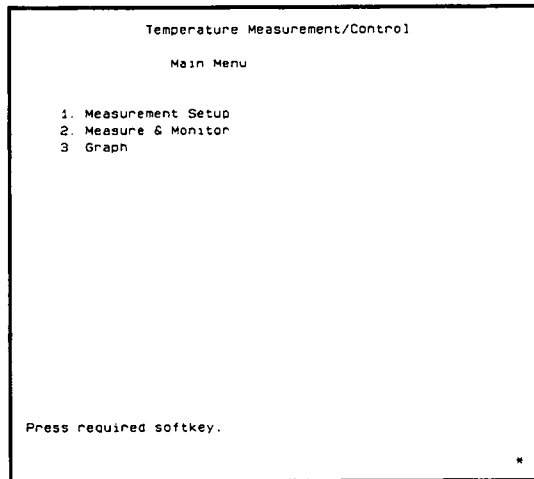

Figure 1-10. Main Menu
6. The Main Menu (shown in Figure 1-10) is displayed.
① **Measurement Setup**
2. The Menu (shown in Figure 1-10) is displayed.